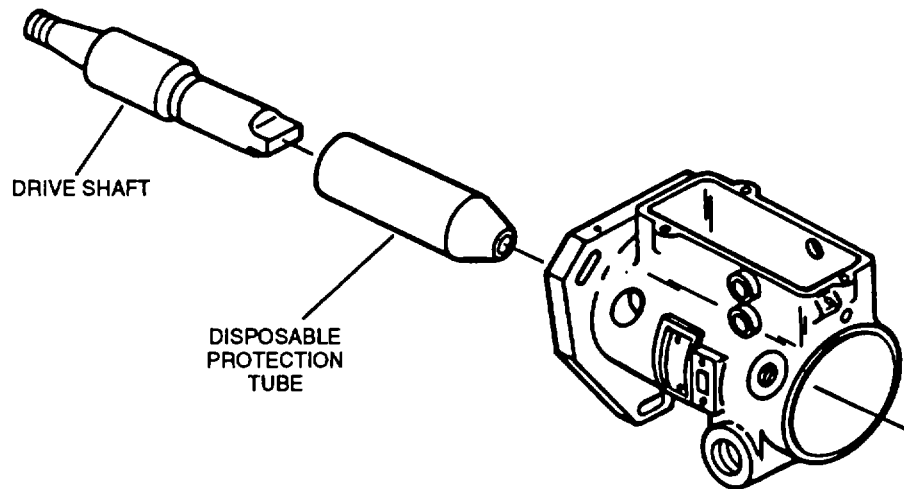

FIGURE 3-93. Installing Protection Tube
- (8) Slide protection tube (refer to FIGURE 3-93) over the drive shaft (42, FIGURE 3-73) and insert into drive end of pump housing until largest diameter of shaft is flush with bearing (46).
- (9) Remove protection tube from inside housing. discard tube, do not reuse it.
- (10) Using snap ring Pliers, install thrust bearing (41) into counter bore located in neck of housing.
- (11) Slide thrust washer (40), aligned with flat, and then spring washer (39) onto drive shaft. Secure with retaining ring (38).